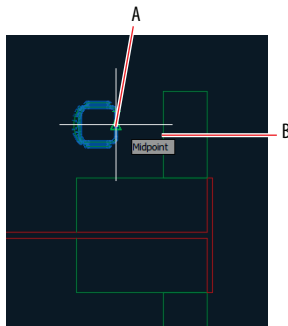

FIGURE 4.11 Selecting the base point for a move
- Right-click the Object Snap toggle in the status bar, and choose Midpoint from the context menu if it is not already selected. Click the base point at the midpoint of the front of the chair (point A in Figure 4.11).
- Click the second point (B in Figure 4.11). The chair is moved precisely to the midpoint of the desk edge.
- Click the Copy tool in the Modify panel. Select the chair you just moved and press Enter twice. Select the midpoint of the desk (point B in Figure 4.11) as the base point, and then click the midpoint of the corresponding mirror image desk below in the same furniture group as the second point. Press Enter to end the COPY command.